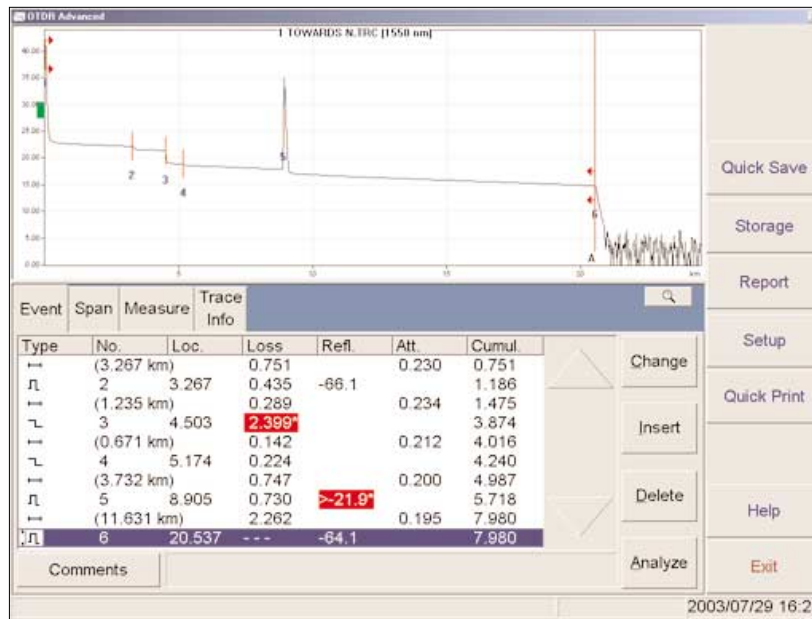

Figure 5: OTDR results for test layout #1
- Challenges:** The most challenging part of testing PTMPN is the analysis that has to be done afterwards because of the intrinsic nature of that test. Indeed, OTDRs are designed to get Rayleigh backscattering from one span (point-to-point)—not from many spans that all add up (up to 32 in that case)—back to the main fiber between the OLT and the splitter to give results as shown below in Figures 5 and 9.
As shown in Figures 5 and 6 below, the PTMPN was characterized and the 10.8 dB loss from the 1:8 splitter didn't generate an end-of-fiber. All branches were properly located:
Loss calculated = 0.21 dB, when compared with PTMPN loss of 0.22 dB, as measured in Figure 5, event #4, and proving the theory.